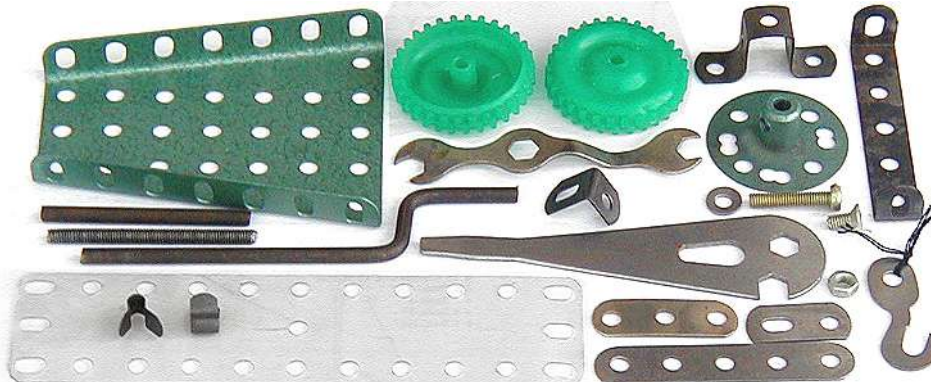
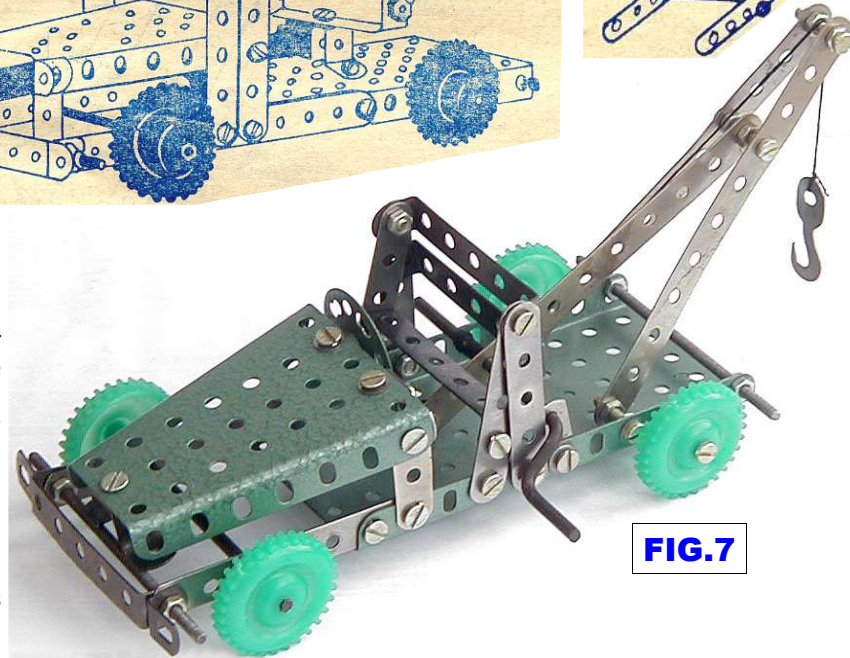

FIG.2
FIG.7
**Material/Finish** All the metal parts are steel, mostly nickelled but with some staining. The Strips are of (rather too) soft steel. The DAS, A/B, & Rods have a very dark grey, anti-rust finish, and the Flanged Plates & Bush Wheel a very tough palish green crackle finish (it is nearer the shade in Fig.7 than in Fig.2). The N&B have a green tinged sheen. MCS gives the Strips as blue, beige & green, and the Plates red & blue.
**List of Parts** The parts are listed below, with my English names, and quantities, from a list in the manual, in curly brackets. Representative examples are shown in Fig.2.
**#3-7 Strips:** 2h (the Flat Bracket), 3, 5, 7, 11h. They are 11.5-11.9mm wide depending on length, and .7mm thick. Their ends vary, see Fig.2, and their lines of holes are off centre in several. {2,2,4,2,3}